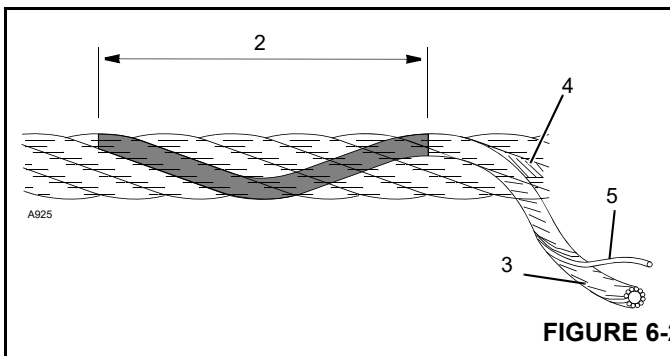

FIGURE 6-2
- When checking for broken wires (5) (Figure 6-2) relax the rope, move it off “pick-up points”, and flex it as much as possible. Defect in the rope is spoke of in relations to “Lay Length” (2) which is the distance measured along rope in which one strand (3) makes one complete revolution around the core (4).